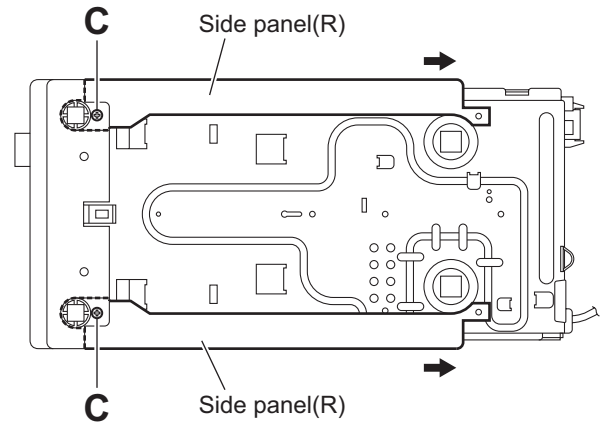

Fig.3
3.1.2 Removing the side panels (L)/(R) (See Fig.3)
- From the bottom side of the main body, remove the two screws **C** attaching the side panels (L)/(R).
- Slide the side panels (L)/(R) in the direction of the arrow and remove the side panels (L)/(R).